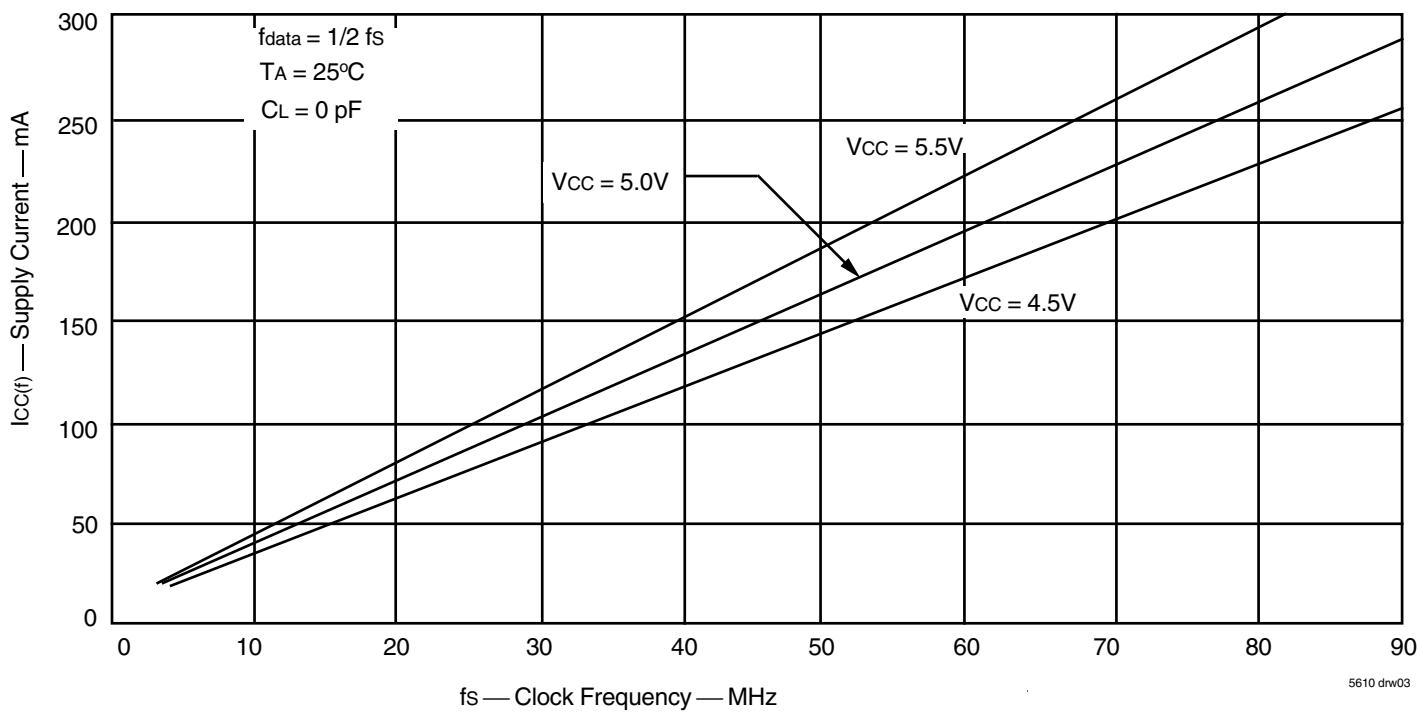

Figure 1. Typical Characteristics: Supply Current (I_{CC}) vs. Clock Frequency (fs)
2. For additional I_{CC} information, see Figure 1, *Typical Characteristics: Supply Current (I_{CC}) vs. Clock Frequency (f_S)*.
The $I_{CC(f)}$ current for the graph in Figure 1 was taken while simultaneously reading and writing a FIFO on the IDT723663/723673 with CLKA and CLKB set to fs. All data inputs and data outputs change state during each clock cycle to consume the highest supply current. Data outputs were disconnected to normalize the graph to a zero capacitance load. Once the capacitance load per data-output channel and the number of IDT723663/723673 inputs driven by TTL HIGH levels are known, the power dissipation can be calculated with the equation below.
With $I_{CC(f)}$ taken from Figure 1, the maximum power dissipation (PT) of these FIFOs may be calculated by: